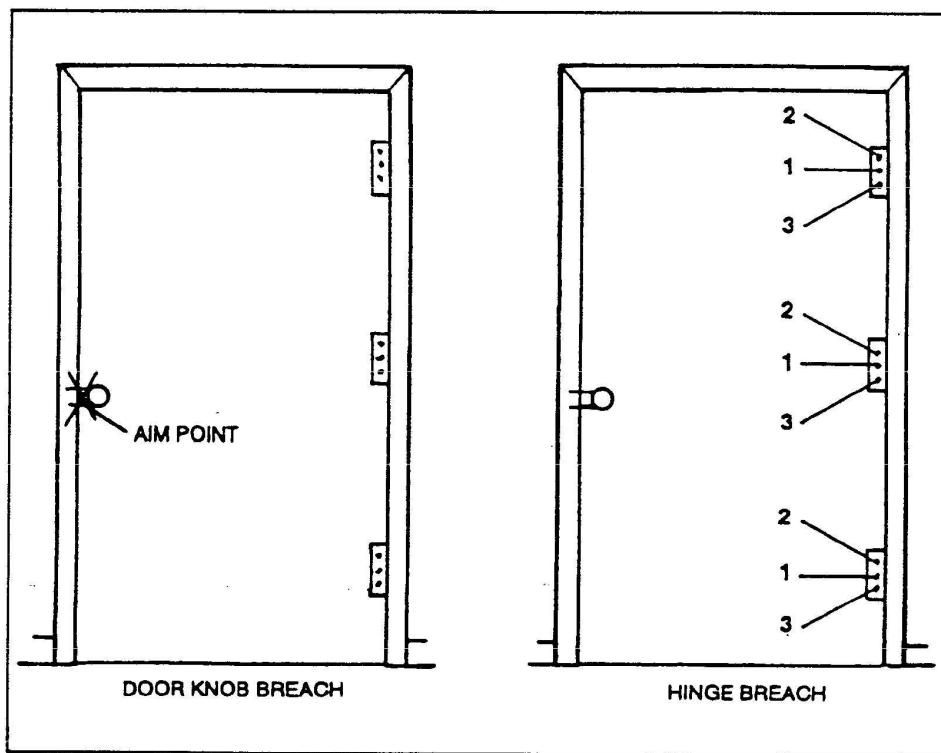

Figure K-1. Aim points for shotgun breach of a standard door.
(1) For the doorknob breach, the aim point is a spot halfway between the doorknob and the frame, not at the doorknob itself. The gunner fires two quick shots in the same location, ensuring that the second shot is aimed as carefully as the first. Weak locks may fly apart with the first shot, but the gunner should always fire twice. Some locks that appear to be blown apart have parts still connected that will delay entry. If the lock is not defeated by the second shot, the gunner repeats the procedure.
(2) The hinge breach technique is performed much the same as the doorknob breach, except the gunner aims at the hinges. He fires three shots per hinge—the first at the middle, then at the top and bottom (Figure K-1). He fires all shots from less than an inch away from the hinge. Because the hinges are often hidden from view, the hinge breach is more difficult.